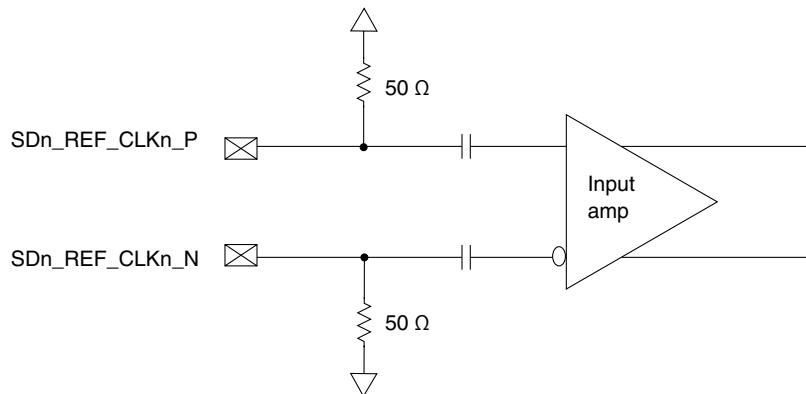

Figure 68. Receiver of SerDes reference clocks
- The are internally AC-coupled differential inputs as shown in Figure 68. Each differential clock input (`SDn_REF_CLKn_P` or `SDn_REF_CLKn_N`) has on-chip $50\ \Omega$ termination to `SD_GND` followed by on-chip AC-coupling.